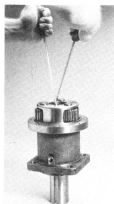

Fig. 3
20. Lubricate spline end of shaft (7), lay retaining ring (9) on end of shaft. Slide planet carrier assembly spline onto shaft spline. [Model 20D—Slide large planet carrier assembly] Reach through the planet carrier and seat retaining ring (9) into groove at end of shaft (7). (Fig. 2) This is best accomplished using two long screwdrivers. (Fig. 3)
21. Lubricate 'O' rings (14). Place one 'O' ring (14) around pilot on bearing housing. Note: Check for sharp edges or burrs on housing pilot.
22. Place internal gear (21) into mesh with planet gears (42) of planet carrier assembly. Line up holes in internal gear (21) with holes in housing (12).